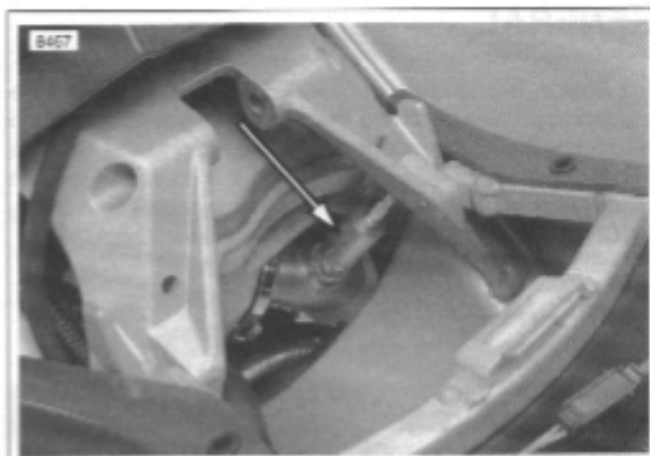

Figure 4-74. Installed Oxygen Sensor (shock absorber removed)
2. See Figure 4-74. Thread sensor into exhaust header. Tighten sensor to 40-45 ft-lbs (54-61 Nm).